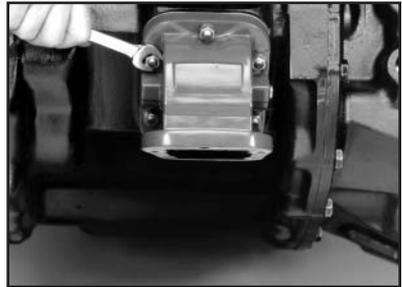

Figure 9
9. Secure Adapter to the transmission. Use Self Locking nuts provided with Adapter (**Fig. 9**). Torque all flange nuts to their proper specifications.